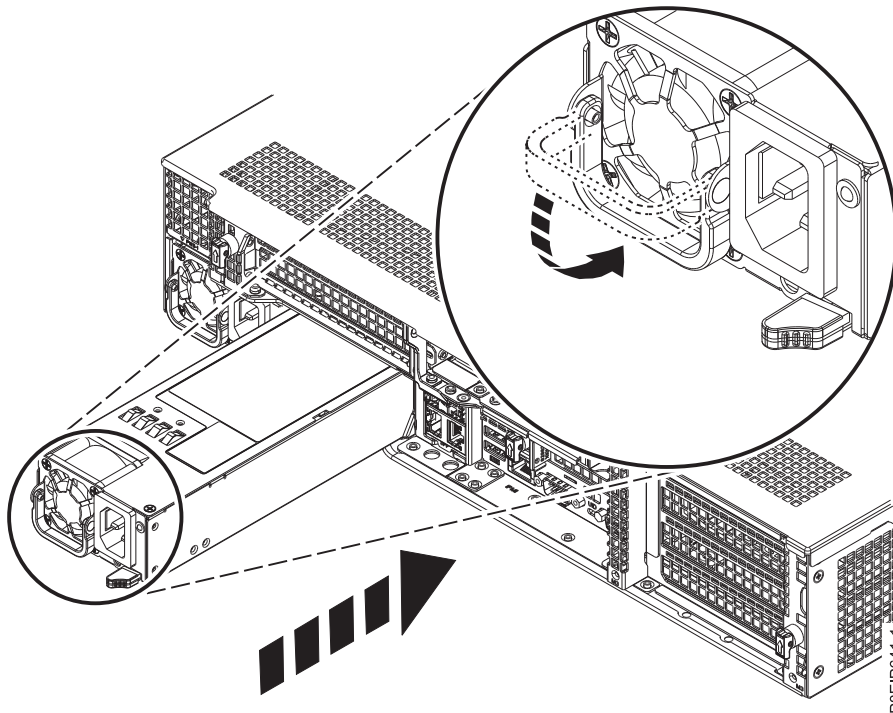

Figure 63. Replacing a power supply in the system
2. Align the power supply with the bay as shown in Figure 63. The fan is on the left; the plug is on the right. Slide the power supply into the system until the latch locks in place.